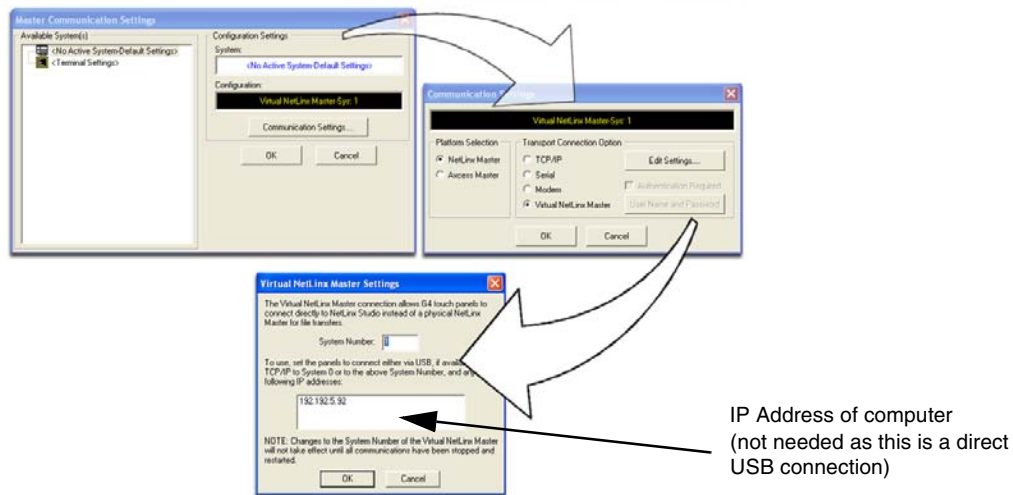

FIG. 77 Assigning Communication Settings for a Virtual Master
2. Select **Settings > Master Communication Settings**, from the Main menu to open the Master Communication Settings dialog (FIG. 77).
6. Click the **Edit Settings** button (on the *Communications Settings* dialog) to open the *Virtual NetLinx Master Settings* dialog (FIG. 77).